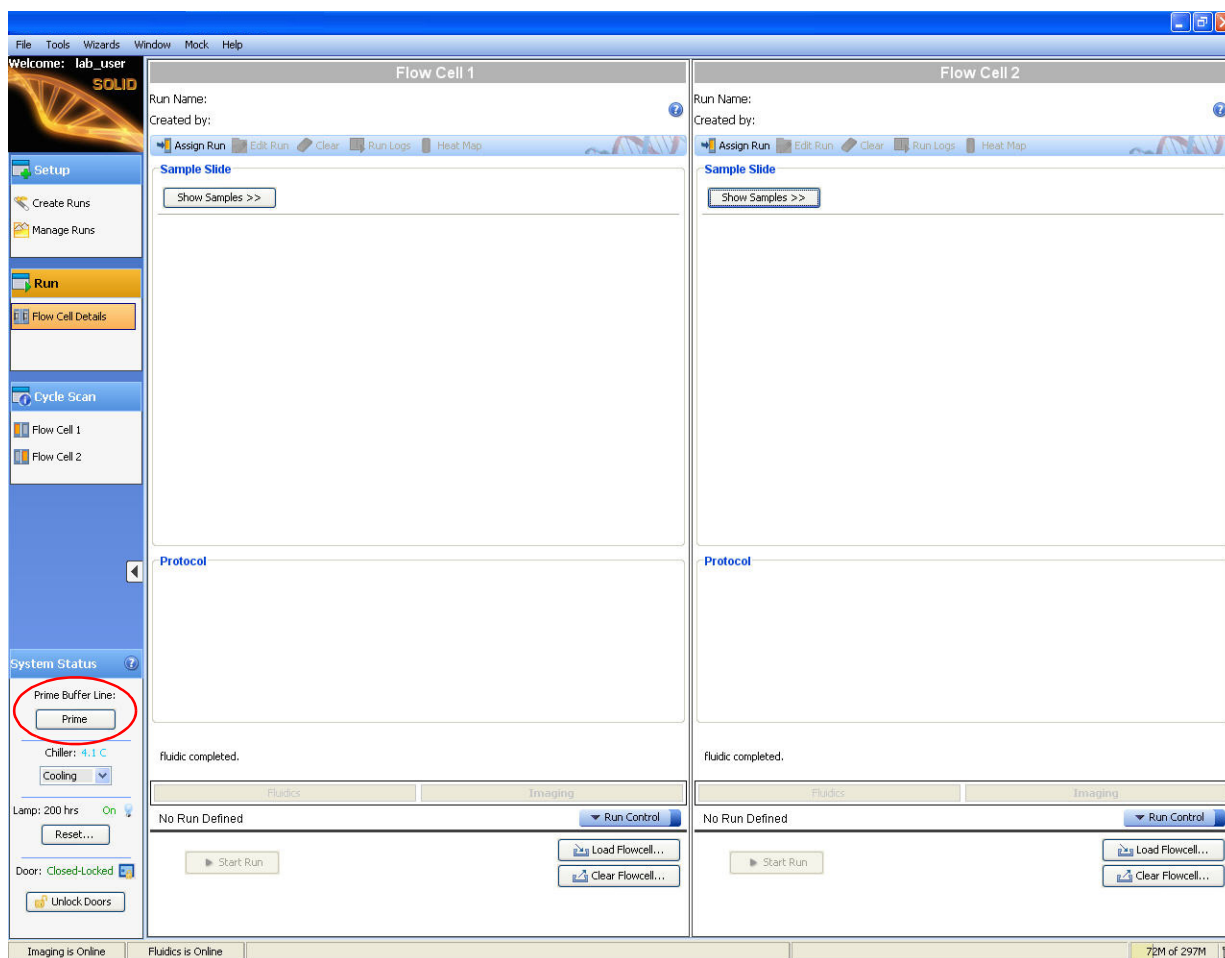

Figure 17 Click **Prime** to prime the instrument and storage buffer lines.
1. Under the System Status menu, click **Prime** (see Figure 17).